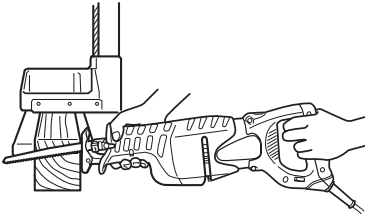

Fig. 20
- (1) When cutting lumber, make sure that the workpiece is fastened firmly before beginning. (Fig. 20)